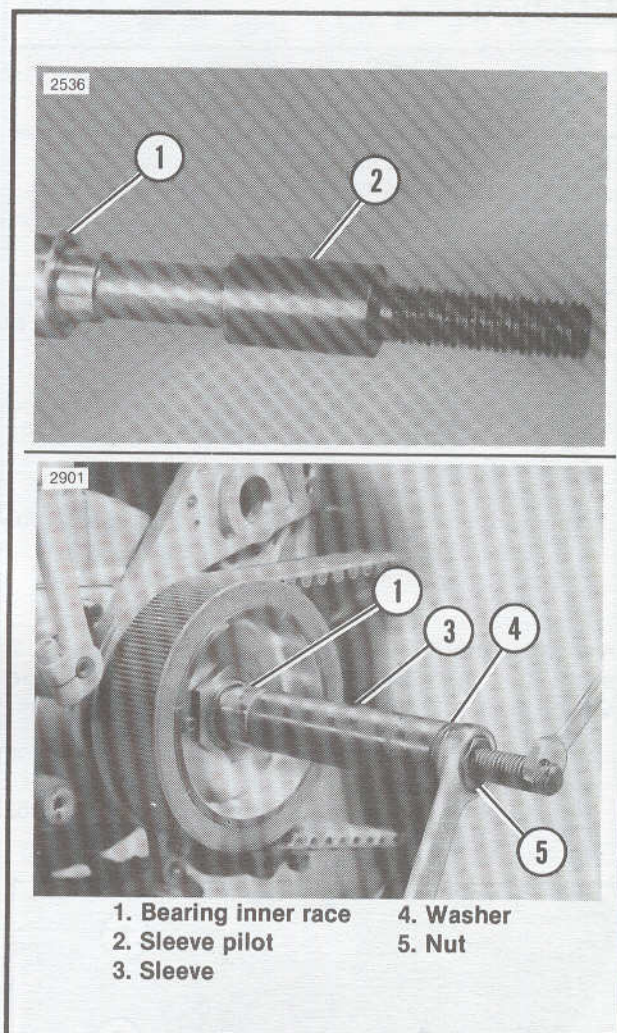

Figure 7-16. Install Bearing Race
4. See Figure 7-16. The bearing race must be positioned on the shaft a precise distance to properly align with the bearing outer race in the primary chaincase. To install the bearing inner race, use those parts of the combination bearing race; PULLER AND INSTALLATION TOOL, Part No. HD-34902.
- a. Slide bearing inner race (1), chamfer edge first, onto mainshaft.
- b. Thread sleeve pilot (2) onto end of mainshaft (left hand thread).
- c. Position sleeve (3) over sleeve pilot (2) and against bearing race (1).
- d. Place washer (4) over threaded portion of sleeve pilot (2) and install nut (5).